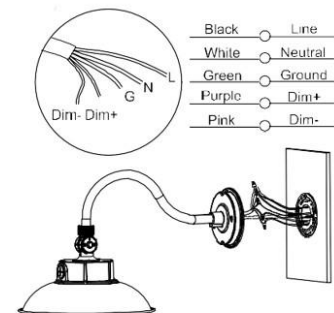

Fig 4
4. Complete the connections according to the Wiring Diagram. Connect the L (live), N (neutral), and ground wires in accordance with local and/or national electrical codes. Push the wiring into the internal junction box ensuring no wires are left exposed (Fig. 4).